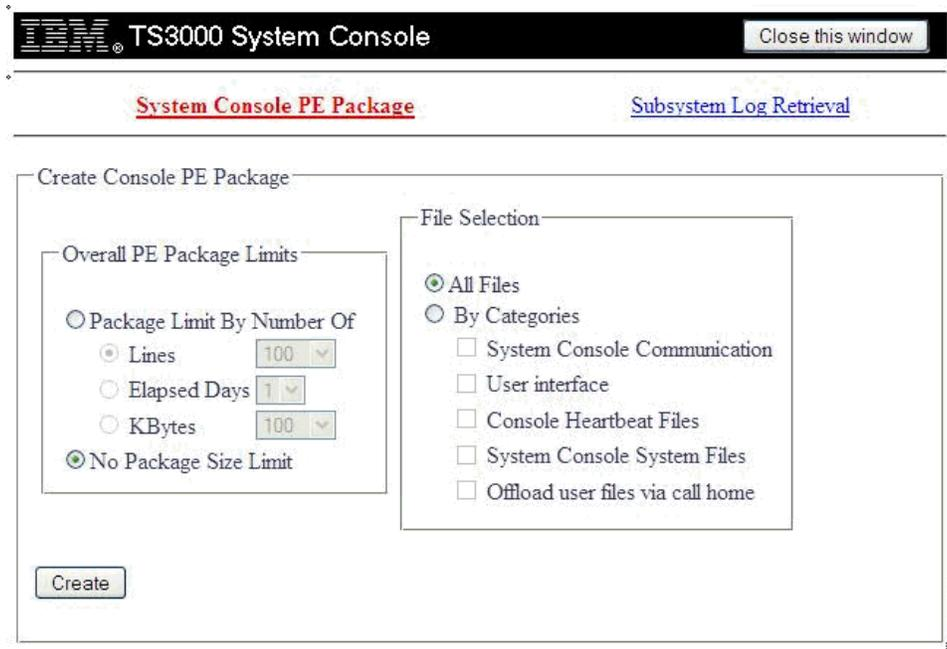

Figure 214. Create Console PE Package Menu
4. Click the **PE Packages** icon. You see Figure 214 on page 163.